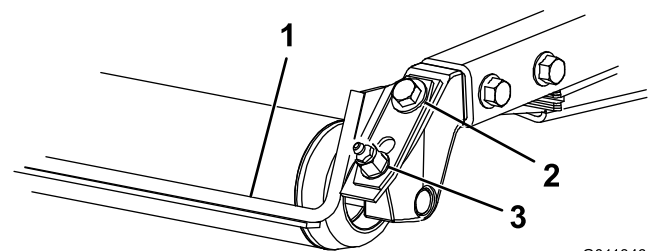

Figure 11
1. Loosen the grease fitting and the mounting screw (Figure 11).